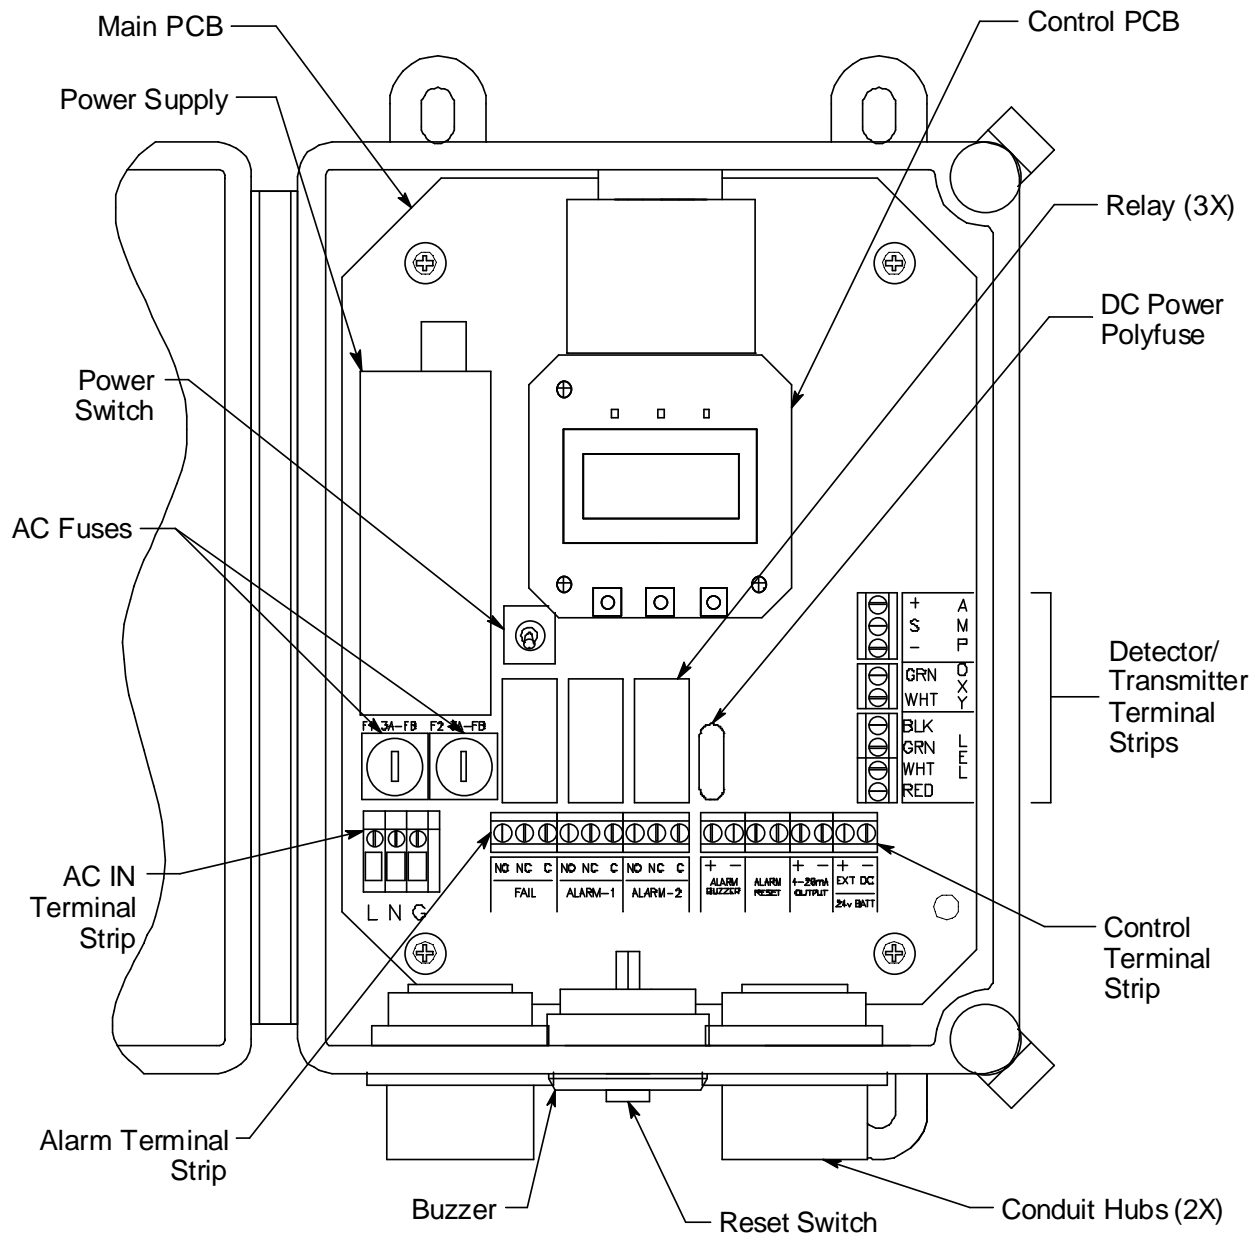

Figure 1: Beacon 110 Component Location
- **Alarm Terminal Strip.** The 9-point alarm terminal strip is located along the bottom edge of the main circuit board to the right of the AC in terminal strip (see Figure 1). It facilitates wiring external alarm devices (horn, strobe, etc.) to the alarm relay contacts and includes common (C), normally closed (NC) and normally open (NO) terminals for fail, alarm 1, and alarm 2.
- **Controller Terminal Strip.** The 8-point controller terminal strip is located along the bottom edge of the main circuit board to the right of the alarm terminal strip (see Figure 1). The controller terminal strip facilitates various internal and external wiring connections. Table 3 lists the function of each terminal.
- **Detector/Transmitter Terminal Strips.** Three adjacent terminal strips are located along the right side of the main circuit board above the controller terminal strip (see Figure 1). These three terminal strips facilitate wiring connections to a detector or a 4 - 20 mA transmitter. The lower 4-point terminal strip is labelled **LEL** and is used to wire a combustible detector. The middle 2-point terminal strip is labelled **Oxy** and is used to wire an oxygen detector. The top 3-point terminal strip is labelled **AMP** and is used to wire 4 - 20 mA transmitters or direct connect preamp type detectors. Although terminal strips are present for various types of detectors, only one detector head at a time may be wired to the Beacon 110.
The power switch is located to the right of the power supply and above the relays (see Figure 1). The power switch turns the incoming AC power source on and off at the Beacon 110. When the switch is up, the power switch is on.
The Beacon 110 includes three active status LEDs that are located above the display (see Figure 1). Two LEDs, labelled RX and TX, to the right of those described below, are not active.